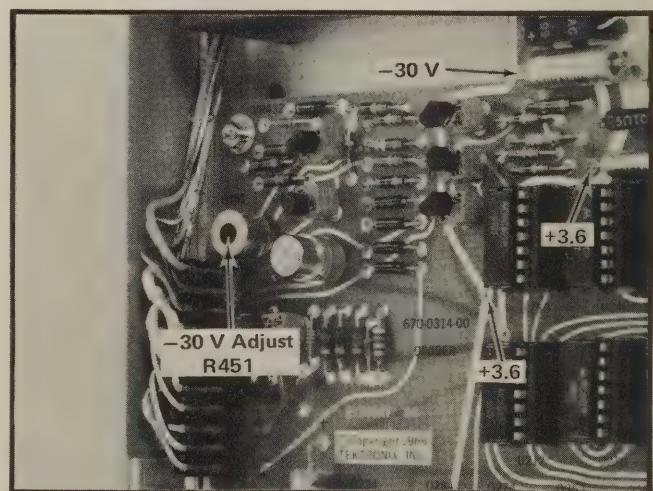

Fig. 5-2. Power supply voltage test points and adjustments.
- Connect the DC voltmeter between the -30 V buss or terminal and chassis ground (see Fig. 5-2).
- ADJUST —30 Volt Adjust R451 (Fig. 5-2) for -30 volts.
- Connect the DC voltmeter and the $1\times$ probe from the test oscilloscope to the -30 volt buss (see Fig. 5-2).
- Connect the DC voltmeter and the test oscilloscope probe to the $+3.6\text{ V}$ buss or terminal (Fig. 5-2).